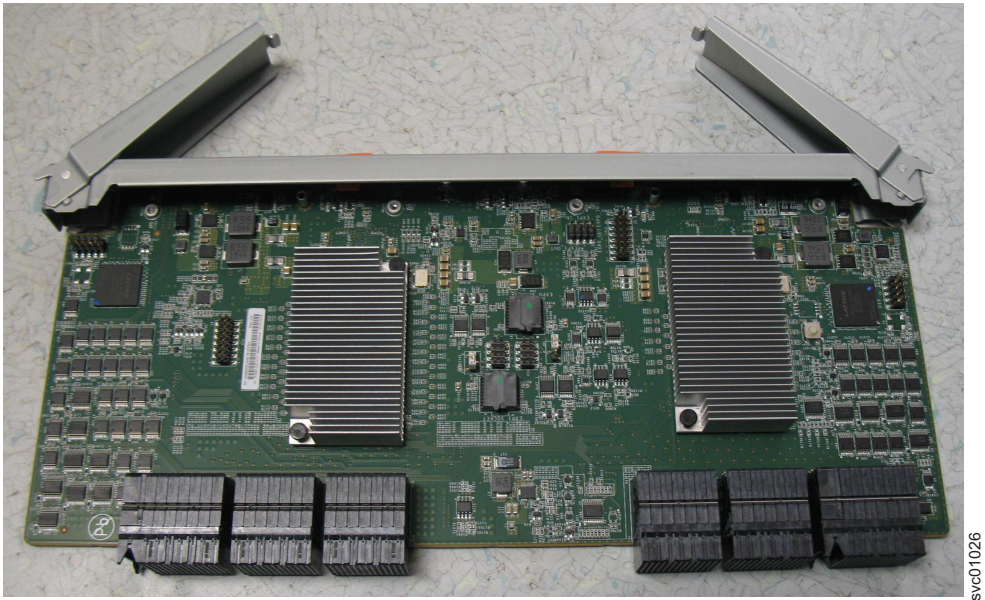

Figure 66. Open the secondary expander module handles
- 3. Rotate both handles on the new secondary expander module to an open position, as shown in Figure 66.